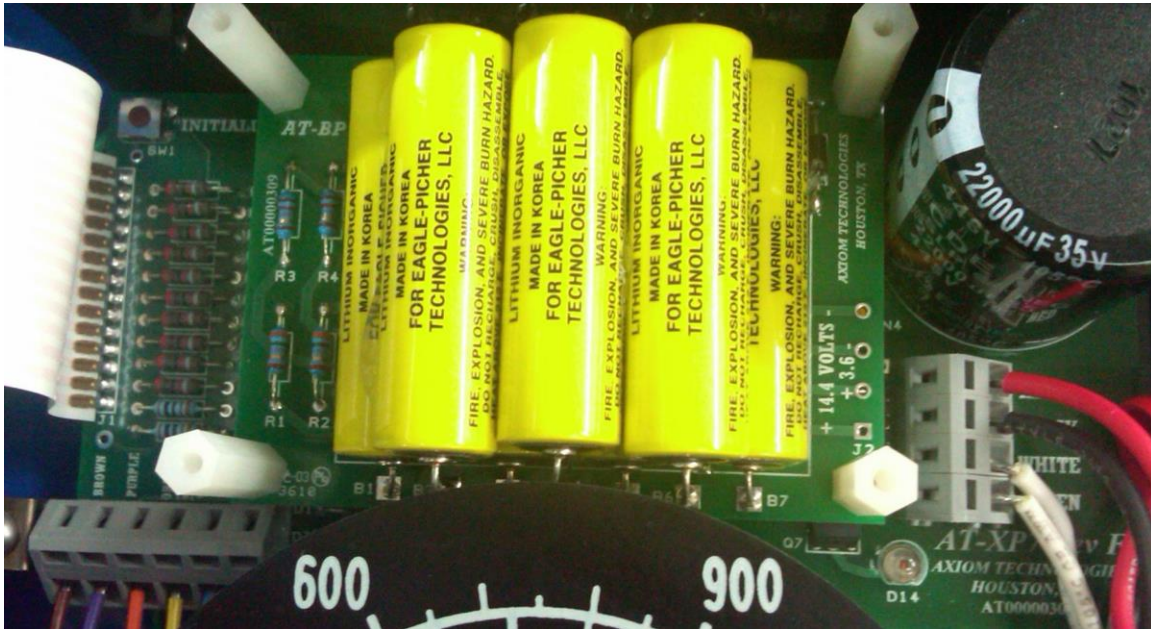

Fig 4 “Initialize” Pushbutton
- 2- While holding the “Test – Reset” switch down, momentarily depress the “Initialize” pushbutton on the controller board (upper left corner as shown on Fig 4, Page 6) and then let go the “Test – Reset” switch. The green LED responds by flashing rapidly for a few seconds.